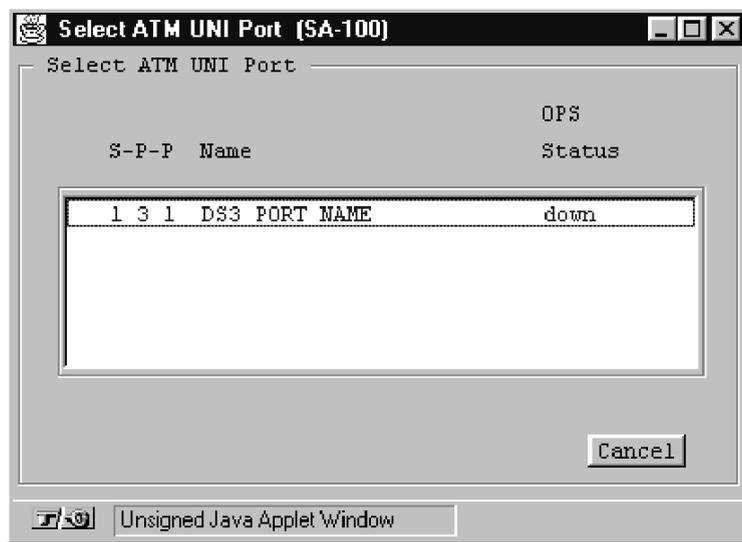

Figure 5-2. Select ATM UNI Port Window
2. Choose the ATM User network Interface (UNI) button. The Select ATM UNI Port window appears (see Figure 5-2).